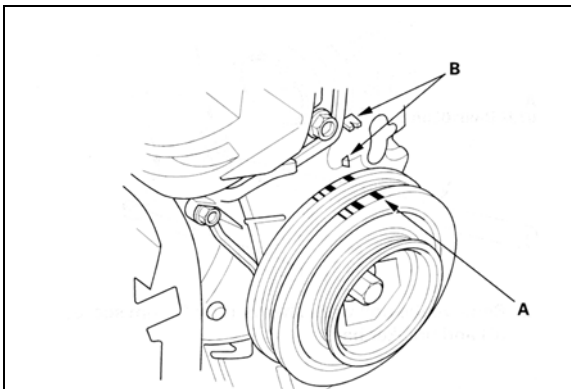

Fig. 14
- u) This illustration better depicts the markings. A: TDC Mark (white line) B: Pointer **(Fig. 14)**